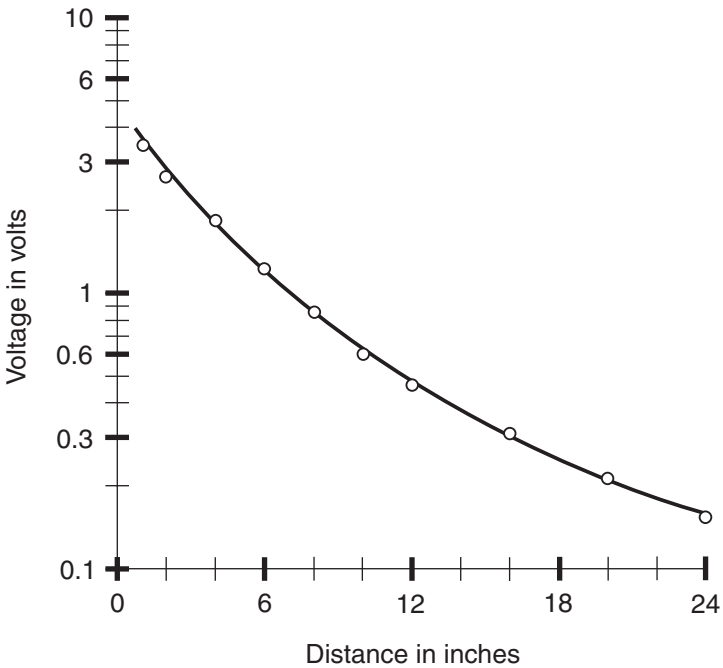
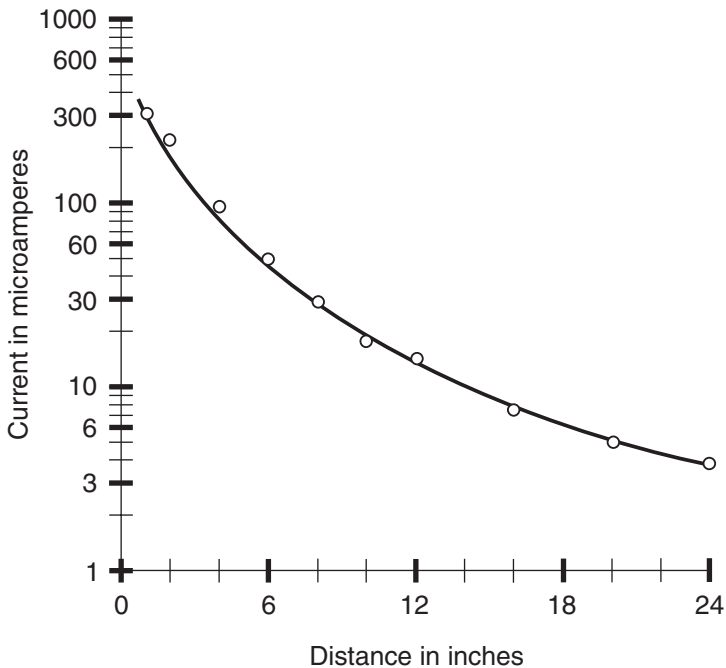

Figure DC23-2 Open-circuit voltage from solar module versus distance from miniature lamp. The voltage scale is logarithmic.
Figure DC23-3 *Maximum deliverable current from solar module versus distance from miniature lamp. The current scale is logarithmic.*
Figure DC23-2 is a *semilogarithmic graph* of my voltage data. The term *semilogarithmic* (or *semilog*) means that one of the graph axes is linear, while the other is logarithmic. Figure DC23-3 is a semilogarithmic graph of my current data. As always, you should expect that your results, and therefore your graphs, will differ somewhat from mine.
Connect a resistor across the solar panel and repeat all of the previously described voltage and current measurements. Try 330 ohms first; then try a couple of other resistances such as 1 kilohm (K) and 3.3 K. When you measure voltage, connect the meter in parallel with the resistor. When you measure current, connect the meter in series with the resistor. Calculate the volt-ampere (VA) power output with the solar panel placed at distances of 1, 2, 4, 6, 8, 10, 12, 16, 20, and 24 in from the miniature lamp. Plot these VA power figures as a function of the solar panel's distance from the lamp. Use a semilogarithmic coordinate grid similar to the ones shown in Figs. DC23-2 and DC23-3.